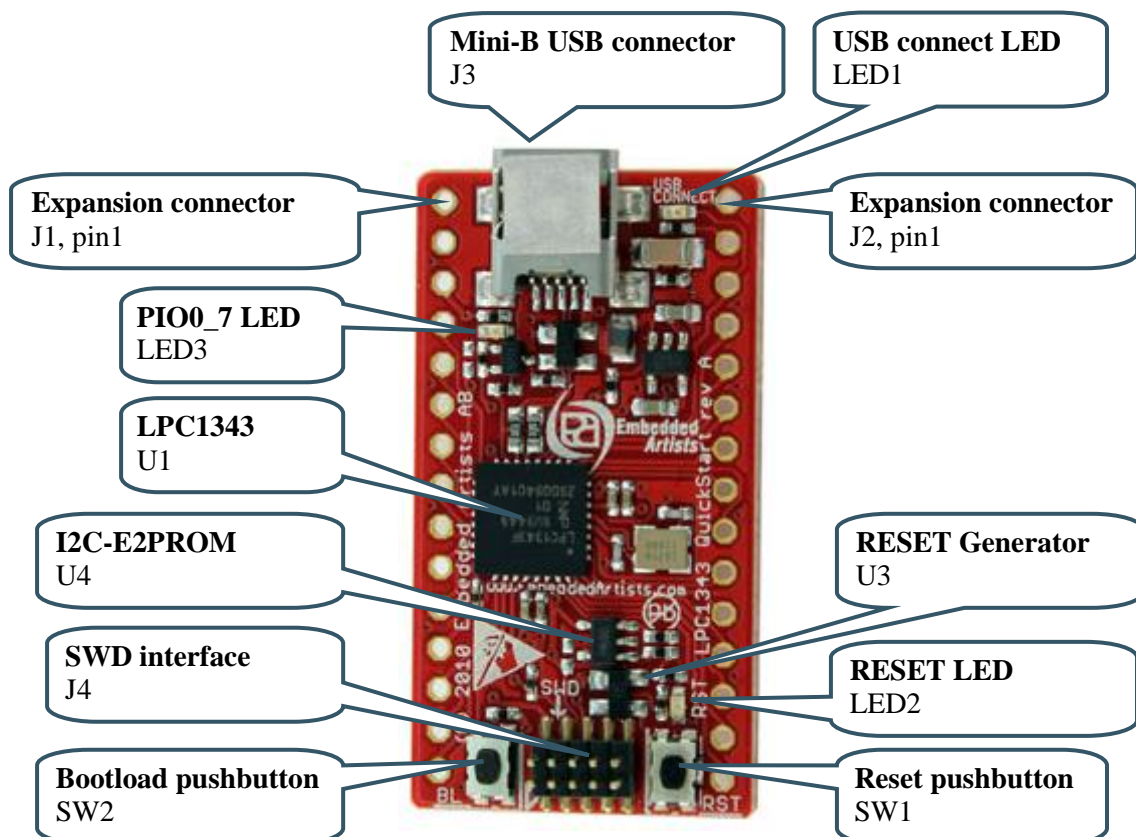

Figure 2 – Main Components on LPC1343 QuickStart Board
There are two expansion connectors, J1 and J2. They both have 15 positions and are placed at the board edges. See *Figure 2* on page 13 for details about J1 and J2 placement on the board. All programmable pins of the LPC1343 are available on the expansion connectors; see the table below for details.
Figure 2 below illustrates where the main components in the design can be found on the board.
1. Press both the bootloader push-button (SW2) and the reset push-button (SW1). See Figure 2 on page 13 for details about where to find the two push-buttons.